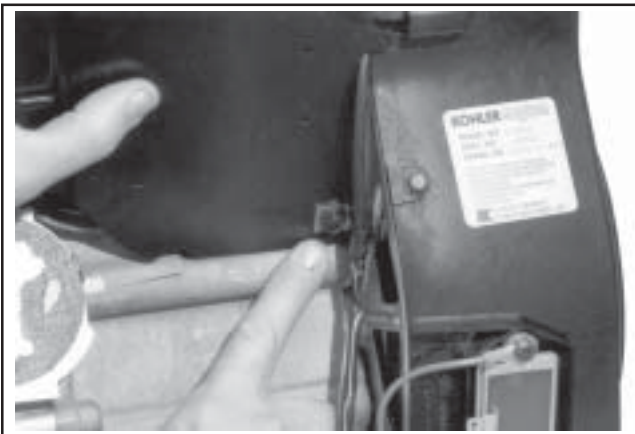

Figure 9-34. Note Location of Two Short Screws.
4. Remove the three (each side) hex flange screws securing the outer baffles. Note the location of any lifting strap and position of the two short screws (one each side on bottom) for reassembly. See Figure 9-34.